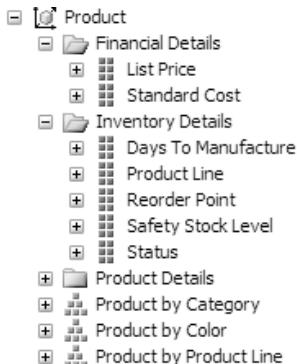

Figure 4.16 Organize logically related attributes in display folders for better user experience.
4. Deploy the project. Open the SOS OLAP cube in the Cube Designer and flip to the Browser tab. Observe that the Product dimension hierarchies are organized neatly in the display folders we've just created (see Figure 4.16). Note that the Dealer Price and Weight attributes don't show up because we disabled their attribute hierarchies (`AttributeHierarchyEnabled = False`).